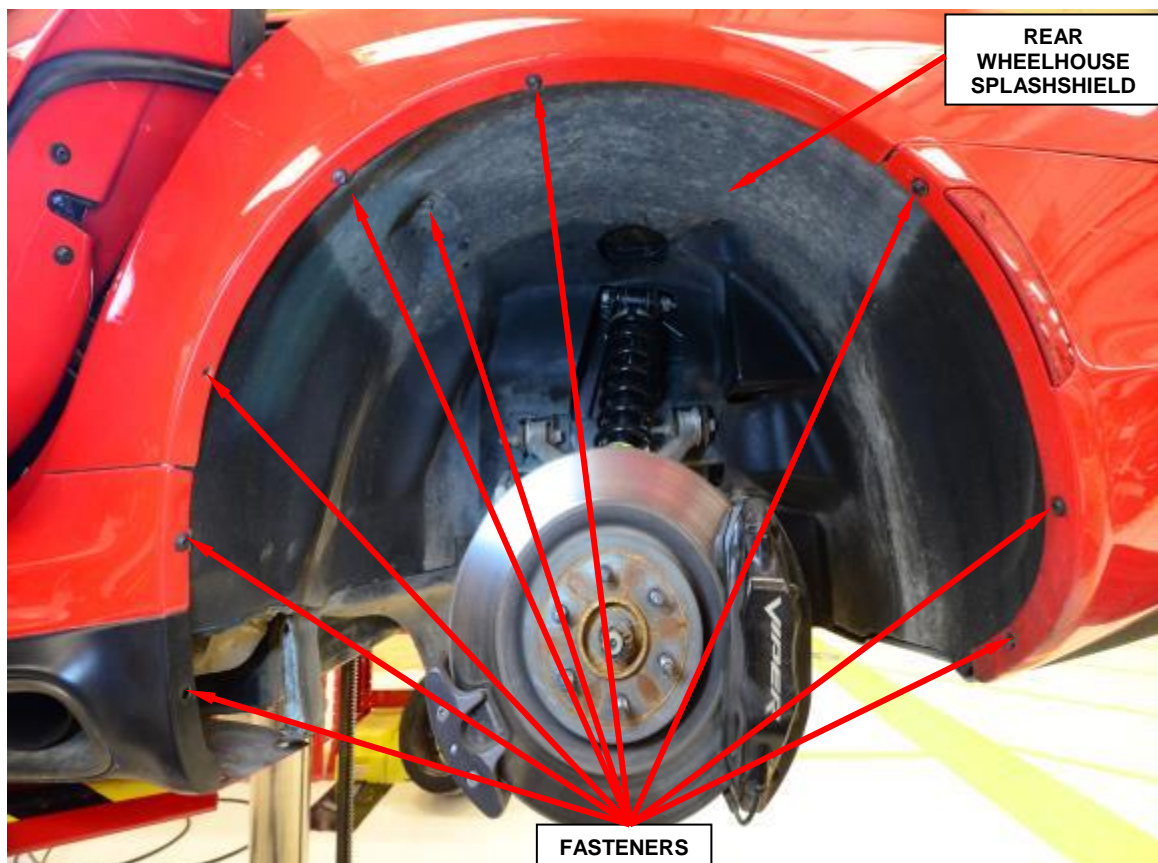

Figure 35 – Rear Wheelhouse Splash Shield
- h. Remove the fasteners securing the rear fascia (Figure 35).